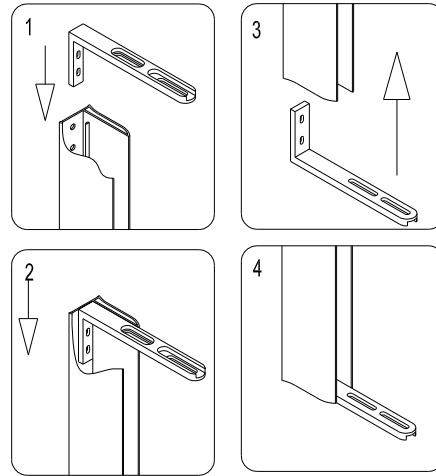

Fig 2
2. Push the **Pivot retainer (8)** into both sides of the **Wall profile for stationary glass (1)**. See Fig 2 for details.